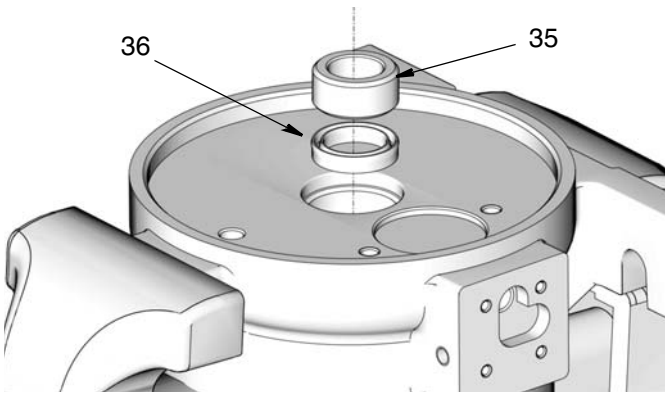

FIG. 27
1. Install u-cup seal (36) with lips facing up, and bushing (35) in air cylinder (3) (FIG. 27).